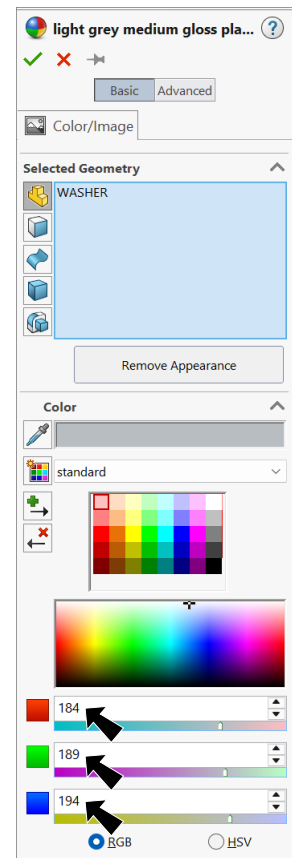

Fig. 9
Step 3. In the Appearances Property Manager set: under **Color**, Fig. 9 set **RGB values**